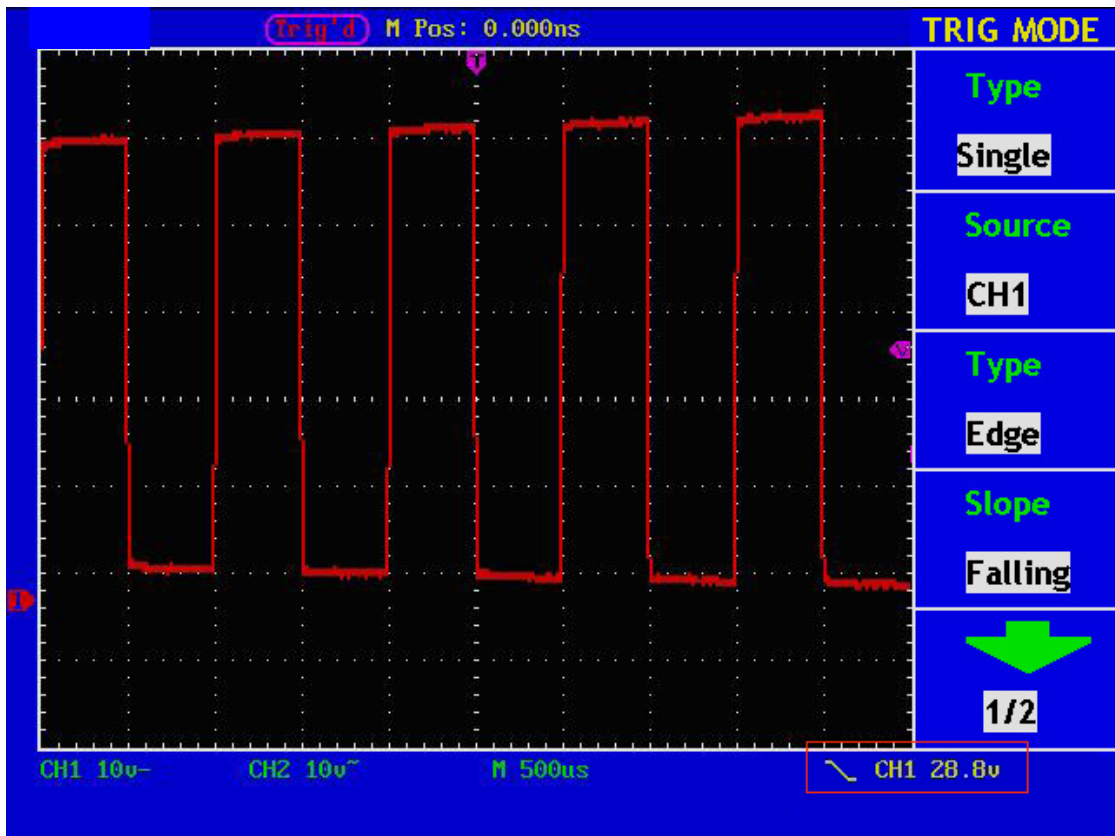

Fig. 32 Wave Form Triggered on the Falling Edge
8. Press the **F1** menu selection button and Press the **F4** menu selection button again , choose Falling for Slope. For the screen display, see Fig. 32.